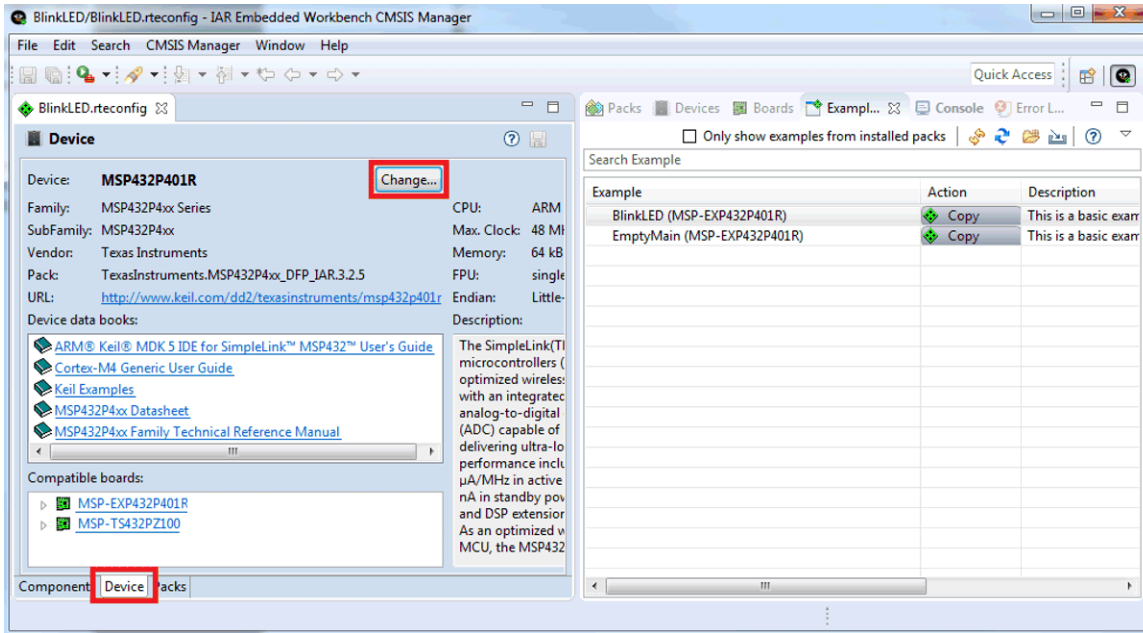

Figure 5. Change Device
- To change the device, if needed, click the device tab in the lower left and then click the **Change** button (see Figure 5).